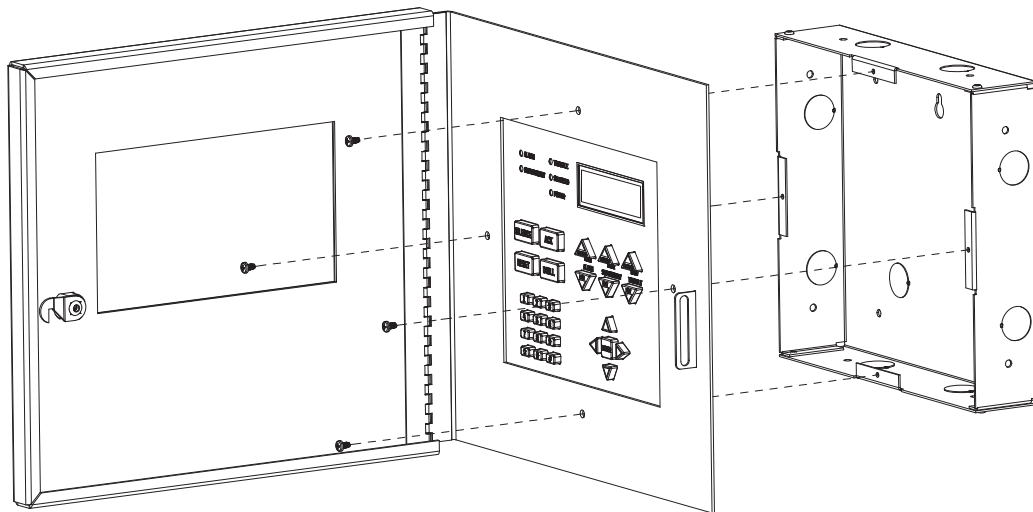

Figure 4.17 Attaching Annunciator/Door Assembly to Backbox
9. Attach the door assembly to the backbox using the screws provided. Refer to Figure 4.17.